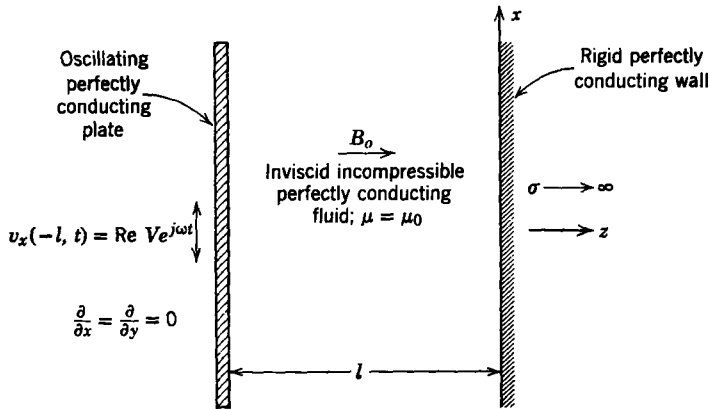

Fig. 12P.37
12.37. A perfectly conducting inviscid fluid is bounded on the right by a perfectly conducting rigid wall, as shown in Fig. 12P.37. On the left a perfectly conducting plate also makes electrical contact with the liquid while being forced to execute an oscillatory motion in the x -direction. The system is immersed in a magnetic field so that when there are no motions $\mathbf{B} = B_0 \hat{i}_2$, where B_0 is a constant.